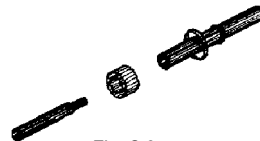

Fig. C.3
2) Insert the crimping ring on the connector, as in Fig. C.3.